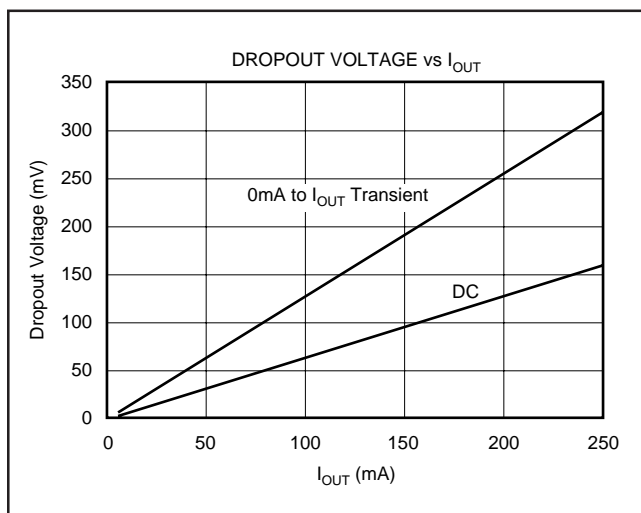

FIGURE 6. Transient and DC Dropout.
The REG102 uses an N-channel DMOS as the pass element. When $(V_{IN} - V_{OUT})$ is less than the drop-out voltage (V_{DROP}), the DMOS pass device behaves like a resistor; therefore, for low values of $(V_{IN} - V_{OUT})$, the regulator input-to-output resistance is the R_{dsON} of the DMOS pass element (typically 600m Ω). For static (DC) loads, the REG102 typically maintains regulation down to a $(V_{IN} - V_{OUT})$ voltage drop of 150mV at full rated output current. In Figure 6, the bottom line (DC dropout) shows the minimum V_{IN} to V_{OUT} voltage drop required to prevent dropout under DC load conditions.
For large step changes in load current, the REG102 requires a larger voltage drop across it to avoid degraded transient response. The boundary of this transient drop-out region is shown as the top line in Figure 6 and values of V_{IN} to V_{OUT} voltage drop above this line insure normal transient response.